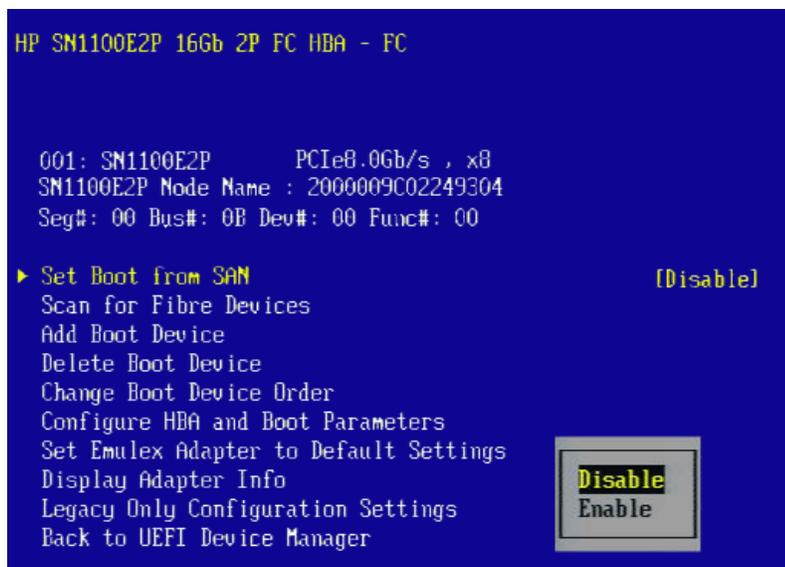

Figure 6-4 Main Menu, Boot from SAN Options Menu
2. From the Main menu (Figure 6-3 on page 52), select **Set Boot from SAN**. The current boot setting is displayed. Press <Enter>. A Disable/Enable menu appears (Figure 6-4 on page 53).